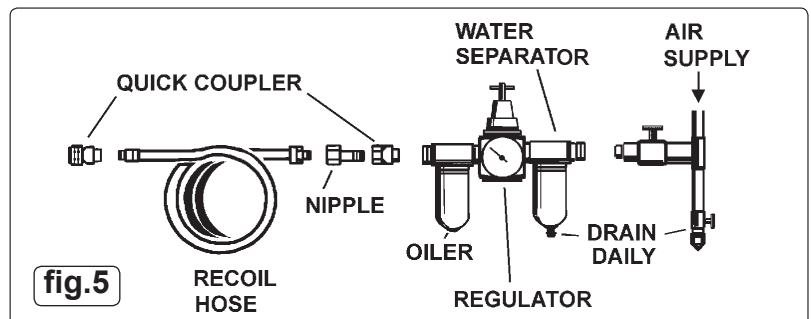

fig.5
4.7. Connect the workshop air supply. Recommended hook-up procedure is shown in fig.5 below.